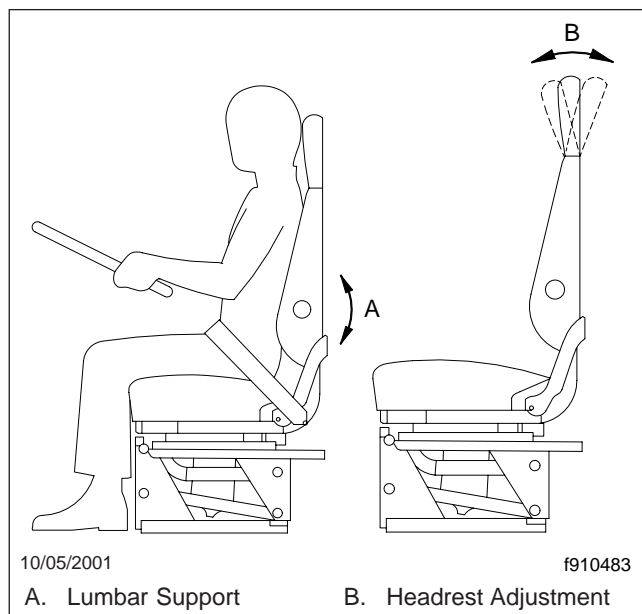

Fig. 5.7, Lumbar Support and Headrest Adjustment
This adjustment is either mechanical or air controlled, depending on make and model of the seat (**Fig. 5.7**).
4. Headrest: When this adjustment is made, the upper part of the backrest (back cushion) changes angle to provide head and upper back support (**Fig. 5.7**).